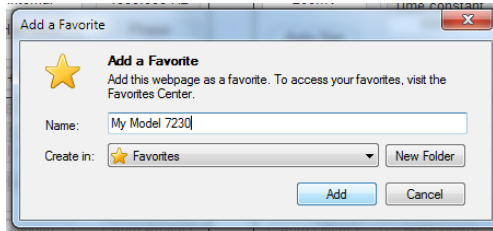
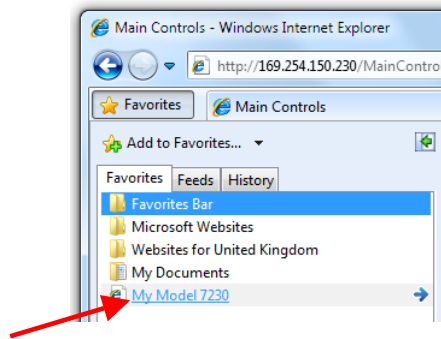

Figure 2-6, Saving the Model 7230's IP address as a favorite
Figure 2-7, Accessing the favorite
- 12) Save the address as a favorite, bookmark, or shortcut (figure 2-6) so that you can quickly reach the model 7230 again if repeating the test, as in figure 2-7